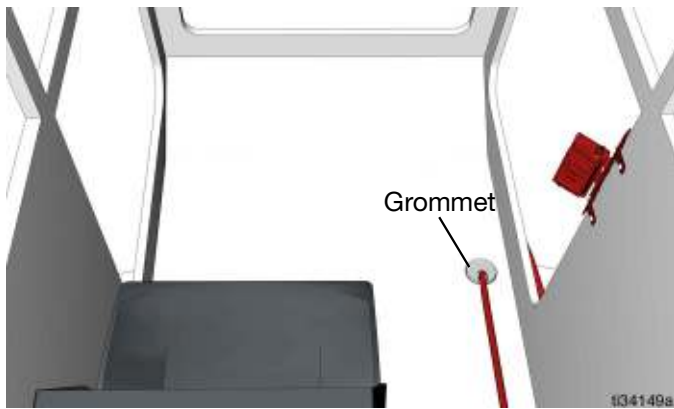

FIG. 13
1. Route the power cable from the pump through the body of the machine and under the cab to protect it from the environment and to aid in wiring into the cab. For installations utilizing a proximity switch and a controller, route the prox cable along the same path as the power cable (FIG. 13).
2. Route the power cable into the cab through the rubber grommet located under the floor mat (FIG. 13).